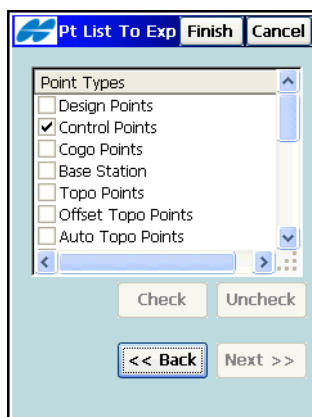

Figure 4-4. Select Point Type(s) to Export
The *Pt List To Export* screen (Figure 4-4) selects the types of points to export if *Code Library*, *Localization*, or *Roads* are checked (if points filter by type has been enabled in the **Export** screen). Place check marks near the desired point types.
- *Select Types of the Points* (for *Points* and *Point Lists* data types) – check mark this field if not all types of points should be exported. In this case the **Point Types to Export** screen first displays (see Figure 4-4 on page 4-4).